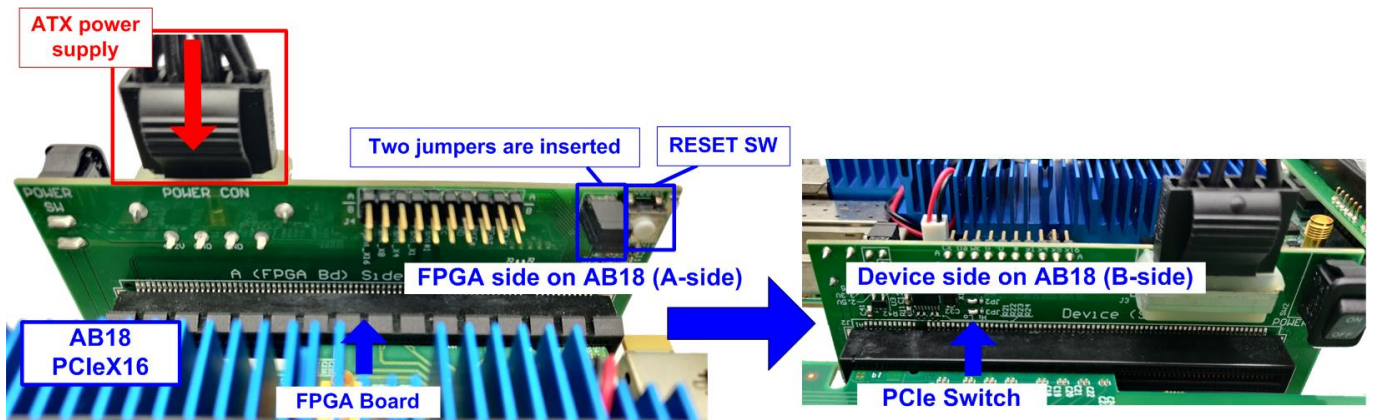

Figure 2-3 Connect AB18 to PCIe switch and FPGA board
- 3) As shown in Figure 2-3, setup AB18 board by following step.